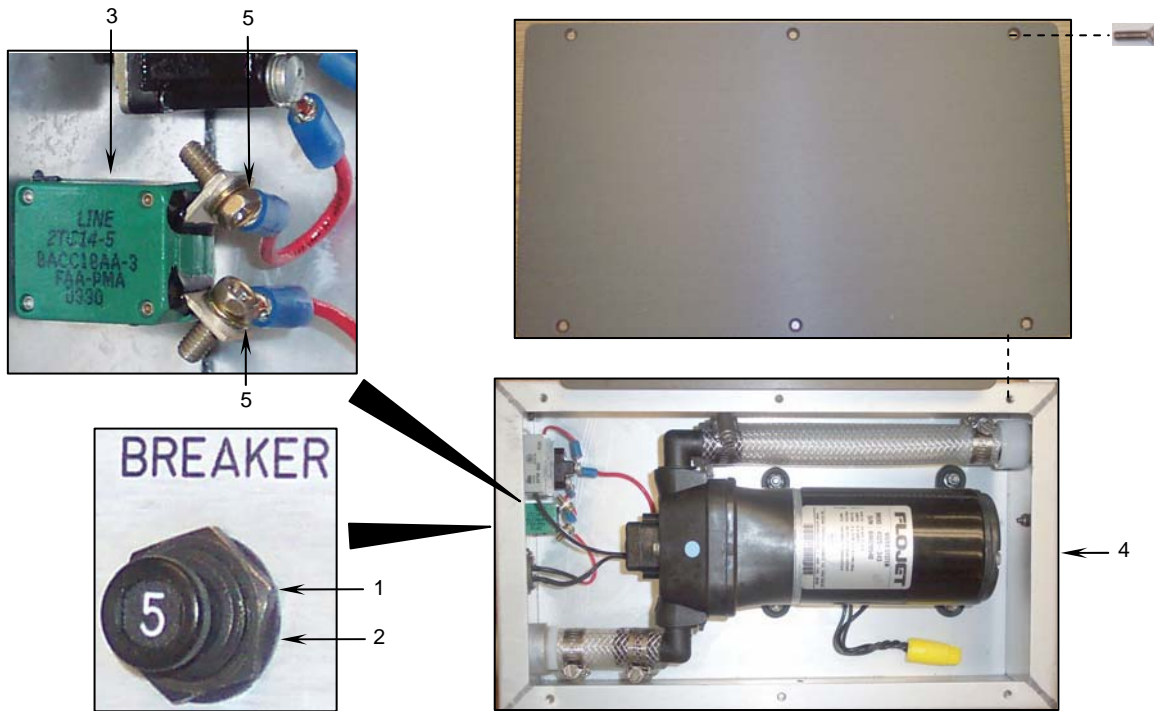

Figure 4. Removing the Sink Fill Pump Assembly Circuit Breaker.
- a. Remove and discard the lock nut (**Figure 4, Item 1**) and the lock washer (**Figure 4, Item 2**) from the front of the circuit breaker (**Figure 4, Item 3**).
- b. Pull the breaker (**Figure 4, Item 3**) out of the fill pump enclosure (**Figure 4, Item 4**).
- c. Tag and disconnect the two wires (**Figure 4, Item 5**) from the terminals at the back of the circuit breaker (**Figure 4, Item 3**).